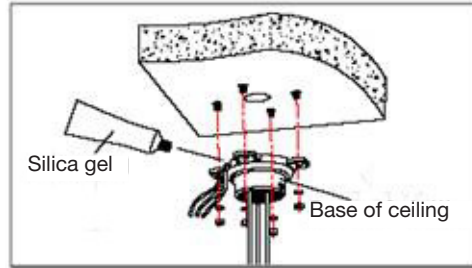

Fig. 13
b. As shown in Fig 13, at first unscrew the M4 screw at the side of the base of ceiling and split the base of ceiling and boom. Then make the three groups of cables of power, video/control and alarming into the side recessing seal groove of the ceiling connector bottom and through the core hole of the base of ceiling mounted. Fix the base of hang ceiling on the ceiling board.